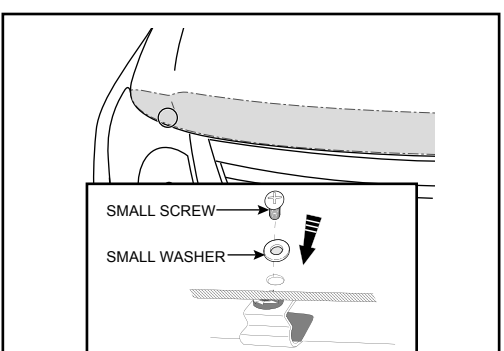

Figure 8
8. Attach the Hood Protector to the wing clips using the provided small screws and washers, as shown (see Figure 8).